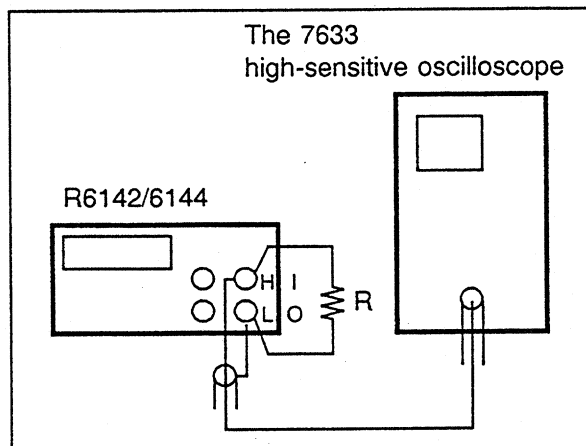

Figure 4-3 Cable Connection for Low-frequency Noise Voltage Measurement
- ① Connect an oscilloscope to the R6142/6144 as shown in Figures 4-3 to 4-6.